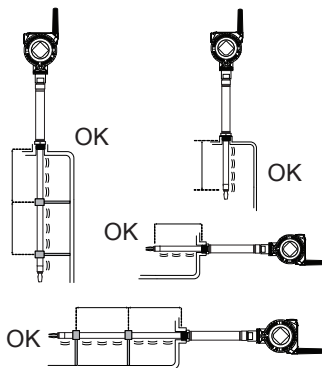

Figure 10.1.3: Support fork every 3 ft (1 m)
- Avoid long fork length vibration by supporting the fork (see figure 10.1.3)